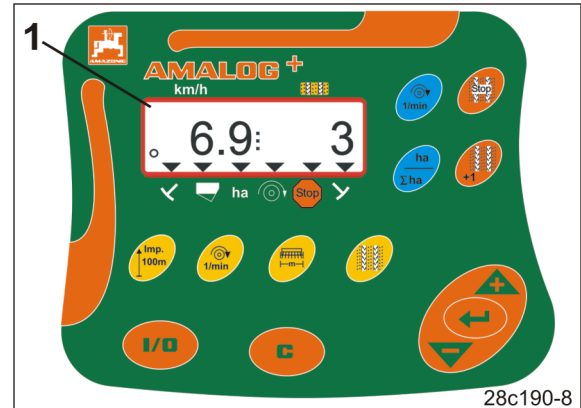

Fig. 3
Example: (Fig. 3/6)
- Figure 3
The control terminal has 6-digit display (Fig. 3/1).